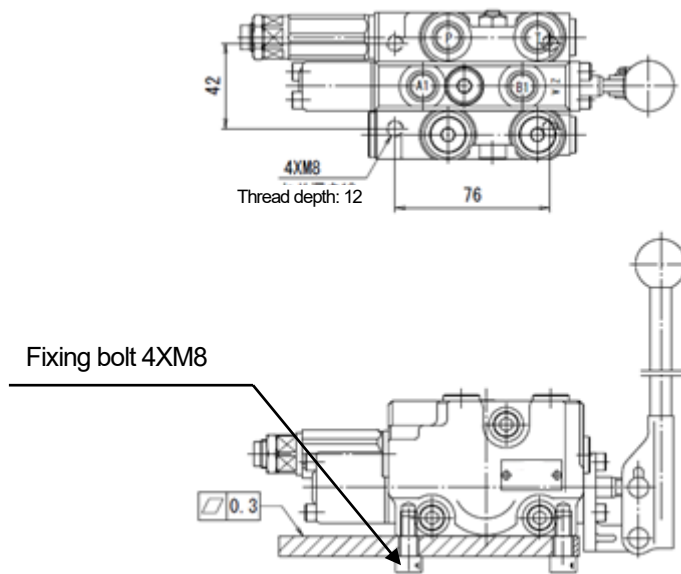

Fig. 6-1 Fixing Bolts
- Depth of the mounting screw hole in the product (For the specific values, see the specification drawing and assembly drawing. In the example shown in Fig. 6-1, the depth of the mounting screw hole is 12 mm.)
- Step 2** Select the fixing bolt after checking the depth of the mounting screw hole in the product and the thickness of the mounting plate in the machine. (In the example shown in Fig. 6-1, the depth of the mounting screw hole is 12 mm.)